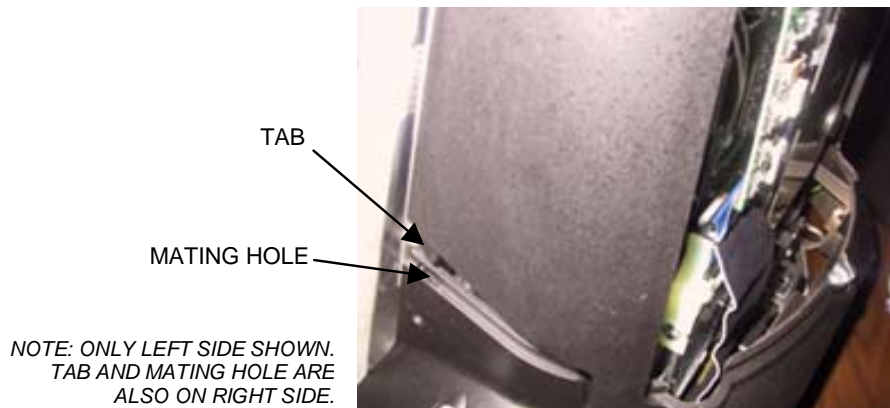
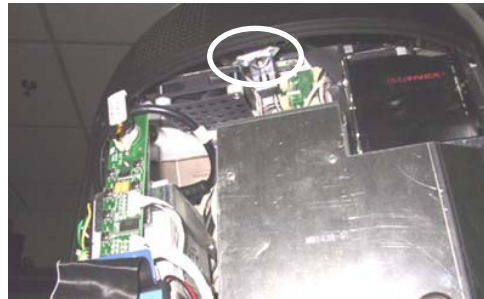

FIGURE 10 - SIDE VIEW OF GAME
FIGURE 1 - ROTARY DRAW LATCH INSIDE TOP COVER
11. Reconnect the ground wire to the rear cover and lower the cover into place, carefully lining up the 2 tabs on the cover with the 2 mating holes on the sides of the game (see Figure 10). Make sure that the plastic lip on the bottom of the rear cover is behind the metal base. Tighten the screw securing the bottom of the door. (Figure 2). Turn the wing on the draw latch clockwise to engage the latch (see Figure 1).
3. Reach under the center of the top of the cover to locate the rotary draw latch (see Figure 1). Turn the wing on the latch counterclockwise to disengage.